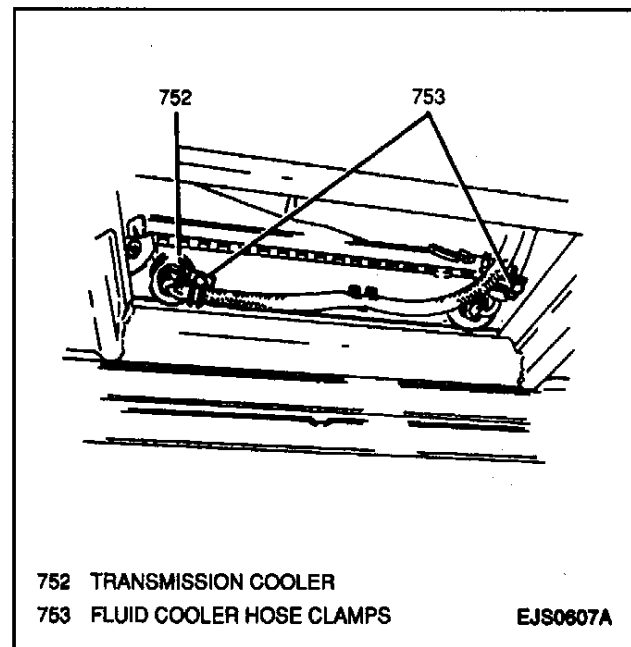

Figure 118—Cooler Hoses at Transmission Cooler
5. Two inlet and outlet hose clamps and transmission cooler hoses from transmission cooler (Figure 118).
2. Cooler pipe clamp from transmission cooler pipe bracket; secure with one bolt (Figure 118).
4. Transmission cooler hoses to transmission cooler; secure with two inlet and outlet hose clamps (Figure 118).